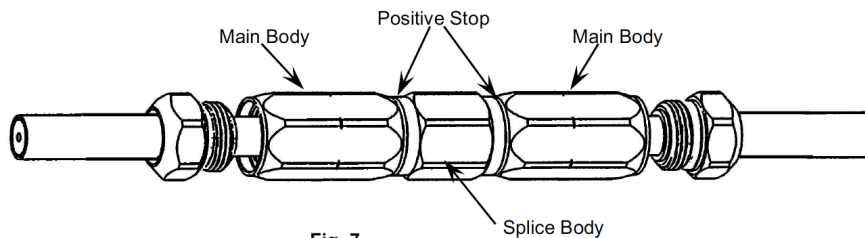

Fig. 7
6. Using two wrenches, one wrench to hold the **SPLICE BODY** from rotation, tighten both **MAIN NUTS** uniformly to the **SPLICE BODY** until both positive stops are engaged. The front leading edge of **MAIN NUT** will contact the mating surface of the **SPLICE BODY** causing an increase in tightening torque, as shown in Figure 7.